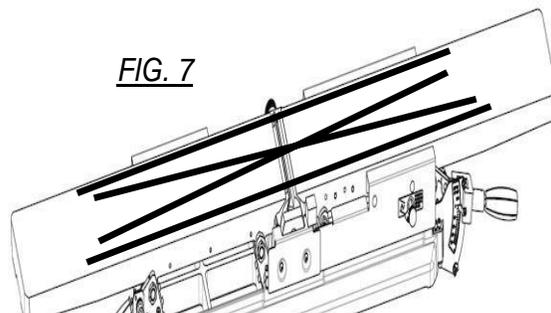

FIG. 7
STEP 3: Place straight edge in positions shown in **FIG. 7**.